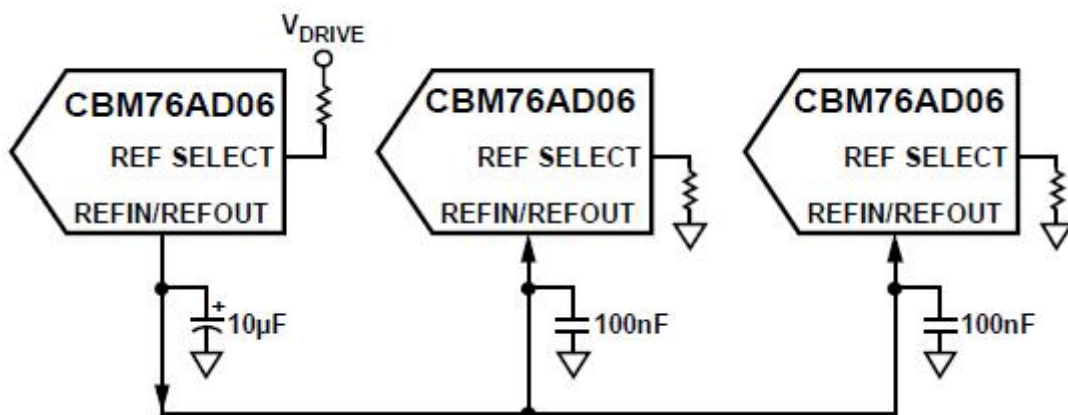

Figure 16. Internal Reference Driving Multiple CBM76AD06 REFIN Pins
**Internal Reference Mode** One CBM76AD06 device, configured to operate in the internal reference mode, can be used to drive the remaining CBM76AD06 devices, which are configured to operate in external reference mode (see Figure 16). The REFIN/ REFOUT pin of the CBM76AD06, configured in internal reference mode, should be decoupled using a 10  $\mu$ F ceramic decoupling capacitor. The other CBM76AD06 devices, configured in external reference mode, should use at least a 100 nF decoupling capacitor on their REFIN/REFOUT pins.